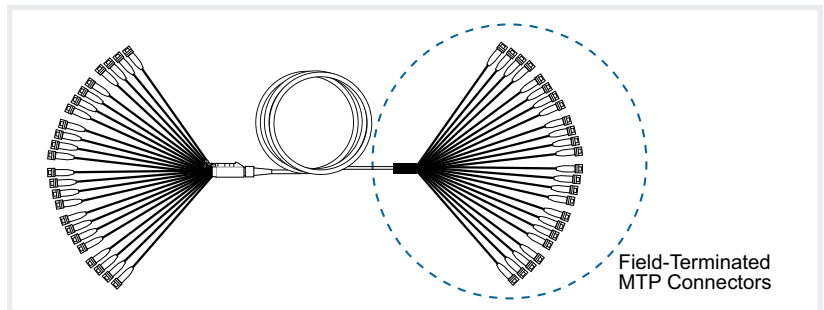

Figure 8: Bulk Cable
**Bulk cable:** This deployment option requires field connectorization on both ends, typically with MTP splice-on connectors. Bulk cable is best for deployments requiring center-pull installation and/or extremely high fiber counts (such as 1,728 fibers and up). See Figure 8.